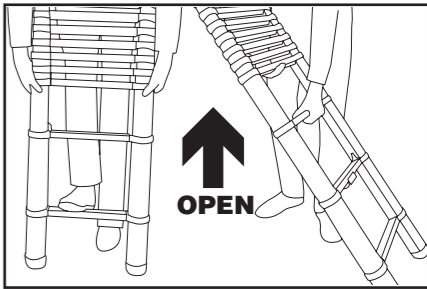

figure 3
- 2.1 Stand and support the closed / retracted product vertically and upon a firm / level surface and then place one foot centrally upon the fixed bottom rung (rung 1) to stabilise the ladder (see figure 3).
- 2.3 Using both hands, lightly grasp the stile tubes below the black support rings of rung 3 (the rung of the first / lowest extendable ladder section) and then pull up and fully extend the section (see figure 3).